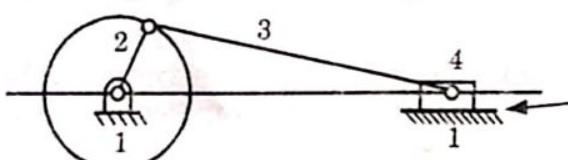

Fig. 1.3.1. Kinematic pair.
- In Fig. 1.3.1, a slider crank mechanism is shown. The links 1 – 2 and 2 – 3 and 3 – 4 constitute turning pairs and link 4 reciprocates relative to the link 1 and is known as sliding pair.